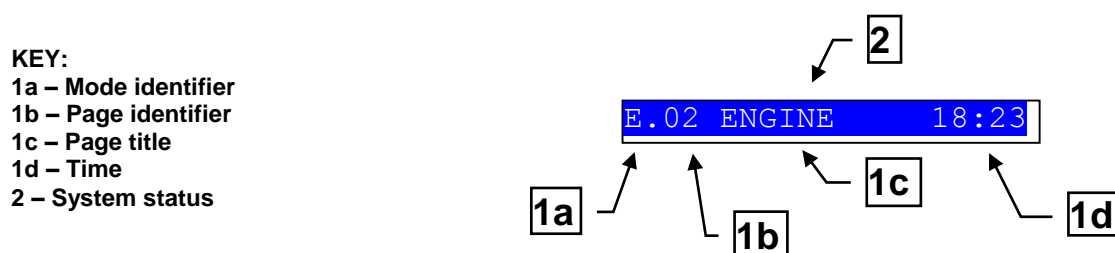

Fig. 4 - Top status bar
3.3.3 Top status bar (ref. to fig. 4)